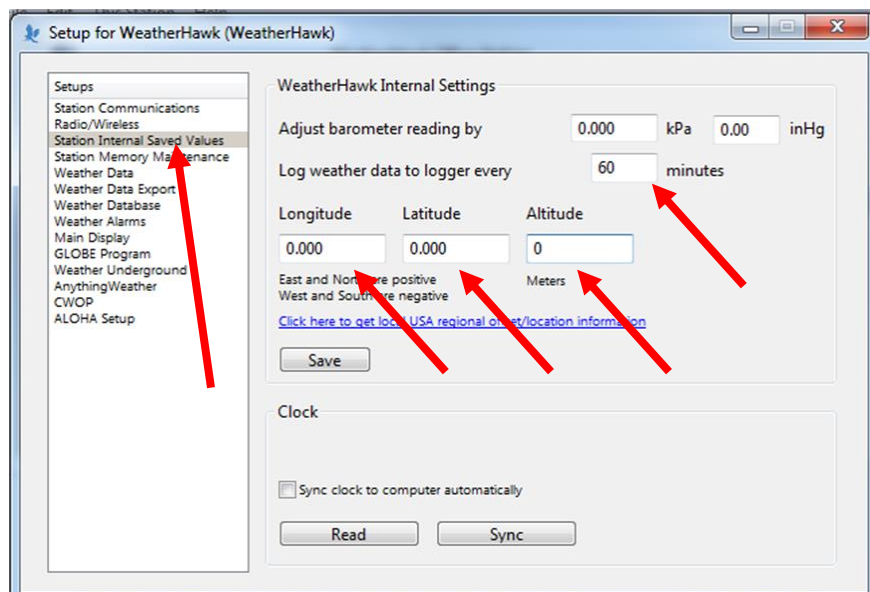

Figure 6: Station Internal Saved Values Setup Screen
4. Select *Station Internal Saved Values* from the list of Setups on the left of the setup screen. (See figure 6)
5. Enter the desired logging interval in minutes (Figure 6).
6. Enter the station Longitude and Latitude in decimal degrees. Enter station altitude in meters. (Figure 6).